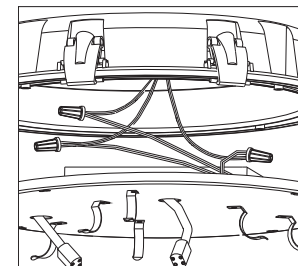

Fig. 8
14. **Ground Fixture:** Hold the Wireway Cover (5) firmly and connect the green ground wires from the fixture to the bare copper ground wire from the junction box using a Wirenut (16). (*If house wiring does not include a ground wire, consult your local electrical code for approved grounding methods.*) **See Fig. 8.**
15. **Power connections:** Use Wirenuts (16) to connect black fixture wire to the black power supply wire and white fixture wire to the white power supply wire. **See Fig. 8.**